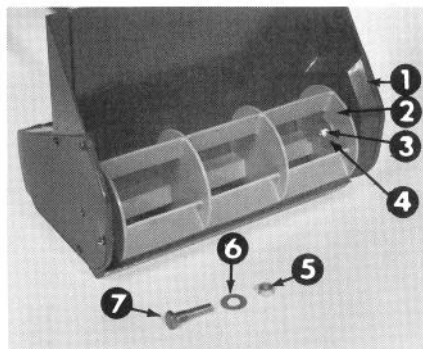

Figure 12
2. Remove the locknut and washer from the opposite end (Fig. 12).